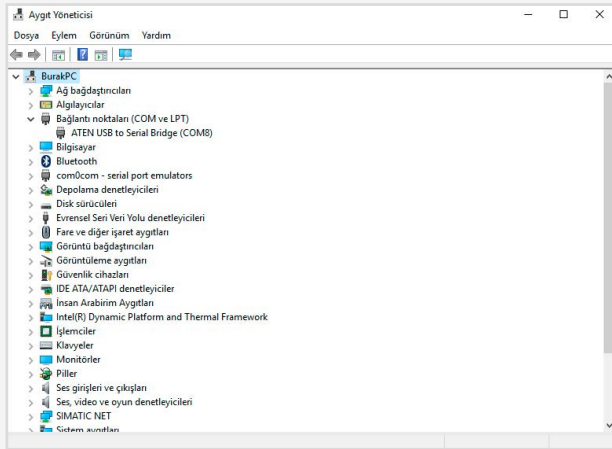

FIGURE 19
1. The correct COM port must be selected. This COM port refers to the port which modem is connected. To select the correct COM port, please click on **View COM ports** to see the installed COM ports (communication devices such as optical probe) in your system. When you open Device Manager, you can see the installed COM ports under the heading of Connection points (COM and LPT) as in Figure 19.